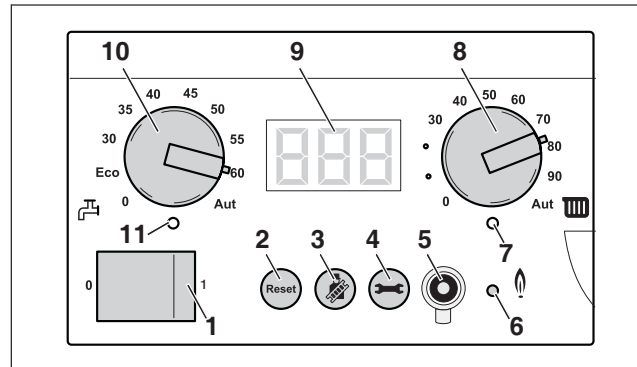

fig. 72 BC10 basic controller
The "DHW mode" LED (fig. 72, **item 11**) lights up when a DHW request has occurred and it is extinguished when this DHW demand is no longer required.
You can navigate through the menu structure of the boiler on the BC10 using the "Reset" button, the "Chimney sweep" button, the "Service button" (fig. 72, **items 2, 3 and 4**) and the display (fig. 72, **item 9**) using table 8 to table 12.